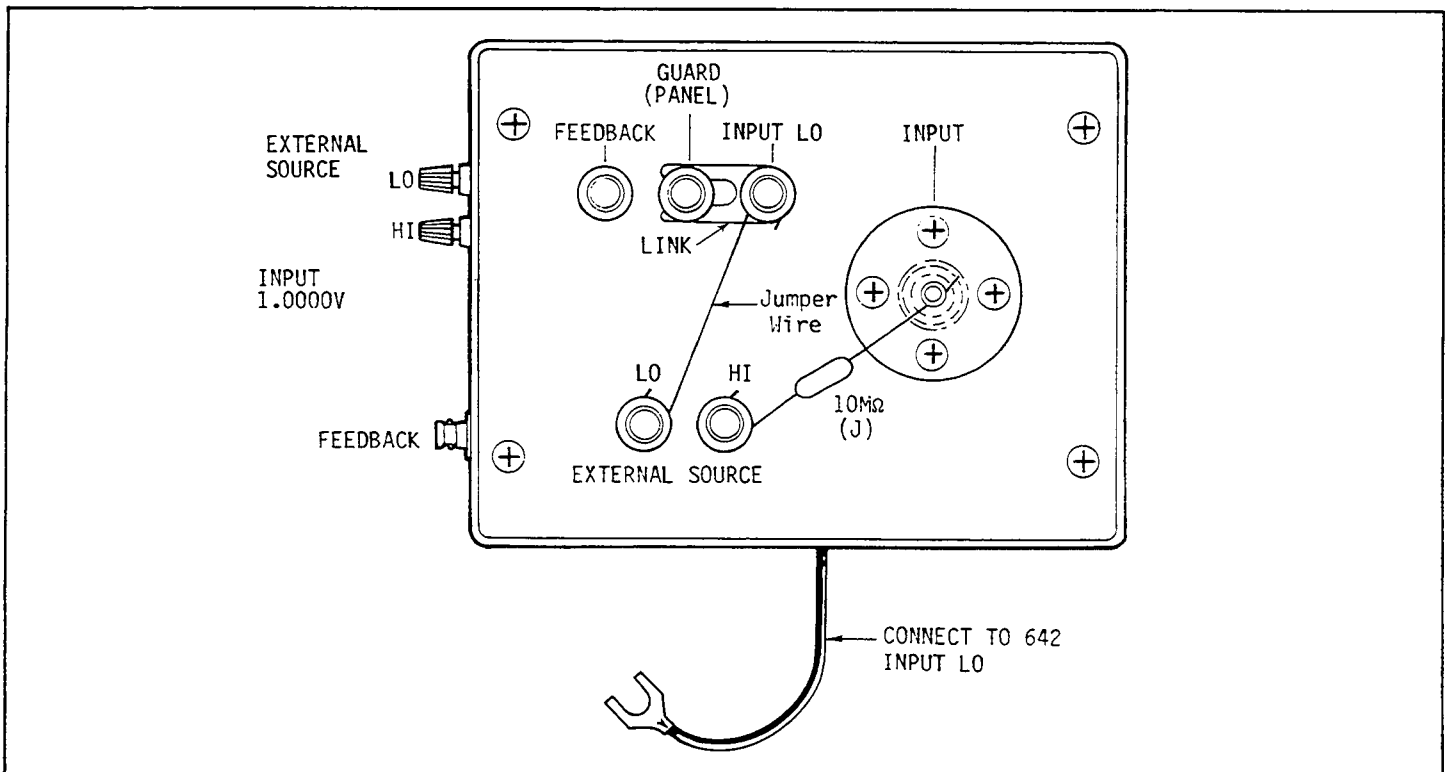

FIGURE 6-1. 10-7A Current Source Using Model 6426 Sapphire Test Box
a. Mount the Model 6426 Sapphire Test Box (Item A Table 6-1) on to the 642 remote head. Connect the $10\text{M}\Omega$, 0.1% resistor (Item J) from the EXTERNAL SOURCE HI binding post to the INPUT binding post, and connect a wire from the EXTERNAL SOURCE LO binding post to the INPUT LO binding post. Connect the black wire that is attached to the test box, to the INPUT LO binding post on the remote head. (See Figure 6-1.) Close the lid of the test box.
b. Apply +1.0000V to the EXTERNAL SOURCE input of the Sapphire Test Box using the DC Calibrator (E).